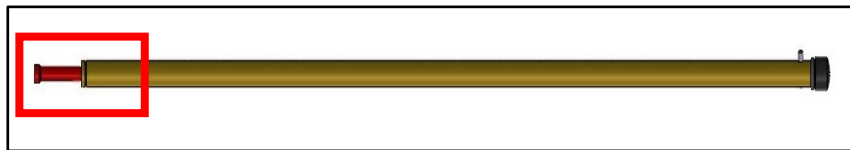

FIGURE 17
9. Ensure that the follower is visible at the end of the inner magazine tube and that no ammunition has become lodged in the inner magazine tube FIGURE 17.